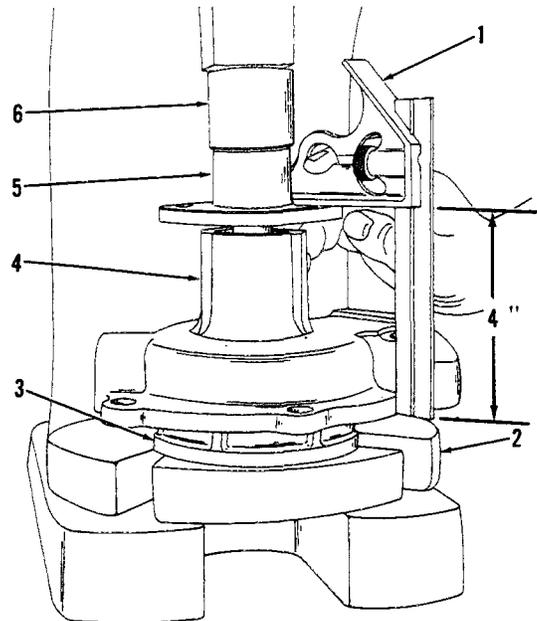

FIG. 11 INSTALLING PULLEY HUB
g. With pump in press as shown in Fig. 11, use collar (6) to clear shaft and press hub (5) on shaft to obtain the specified 4" (+ or - .010") (101 + or - 0.254mm), between bottom of pump body and fan side of pulley hub.